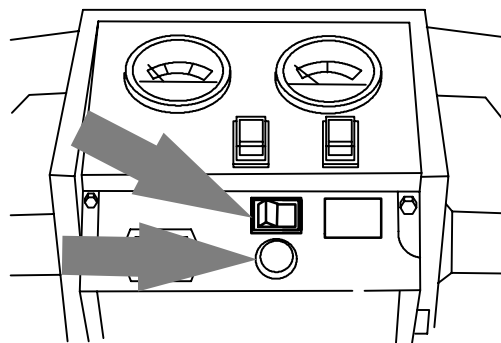

FIG. 32
- Turn ES switch on when ready to begin scrubbing. The ES indicator light will automatically turn on when recovery tank reaches its recycling level (Figure 32).